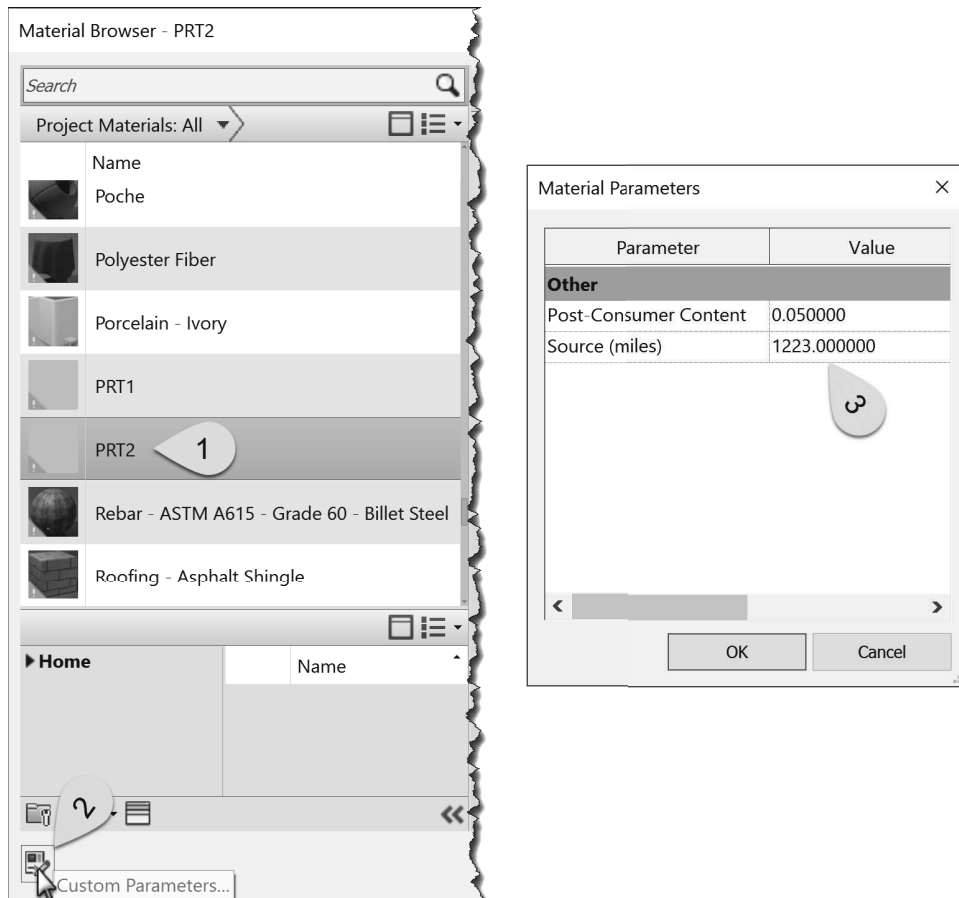

FIGURE 4-5.2 Custom material parameters in the *Materials* dialog
9. Click the **Custom Parameters** button in the lower left (Figure 4-5.2).
10. Add the information shown in Figure 4-5.2.